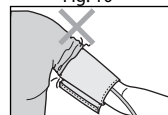

Fig. 11
7. If the rolled-up sleeve squeezes the arm interfering with free blood flow the Device may give inaccurate figures not corresponding to your actual blood pressure (fig. 11).